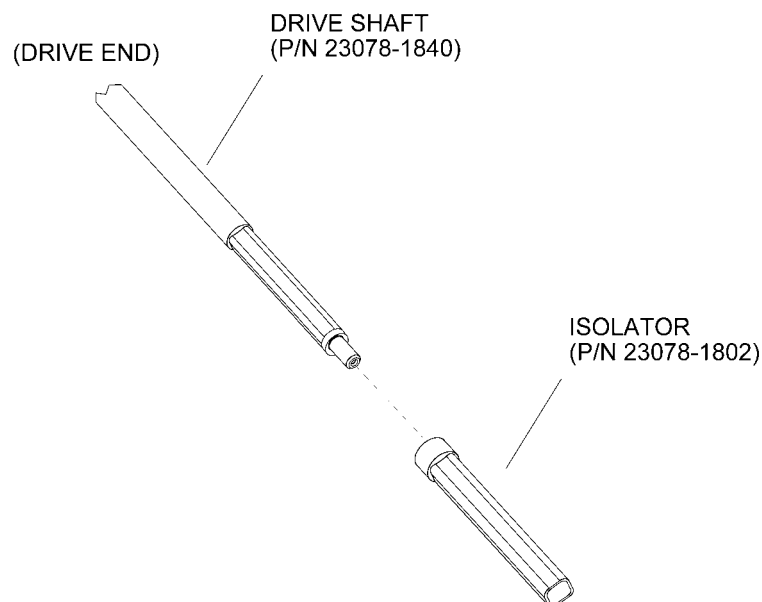
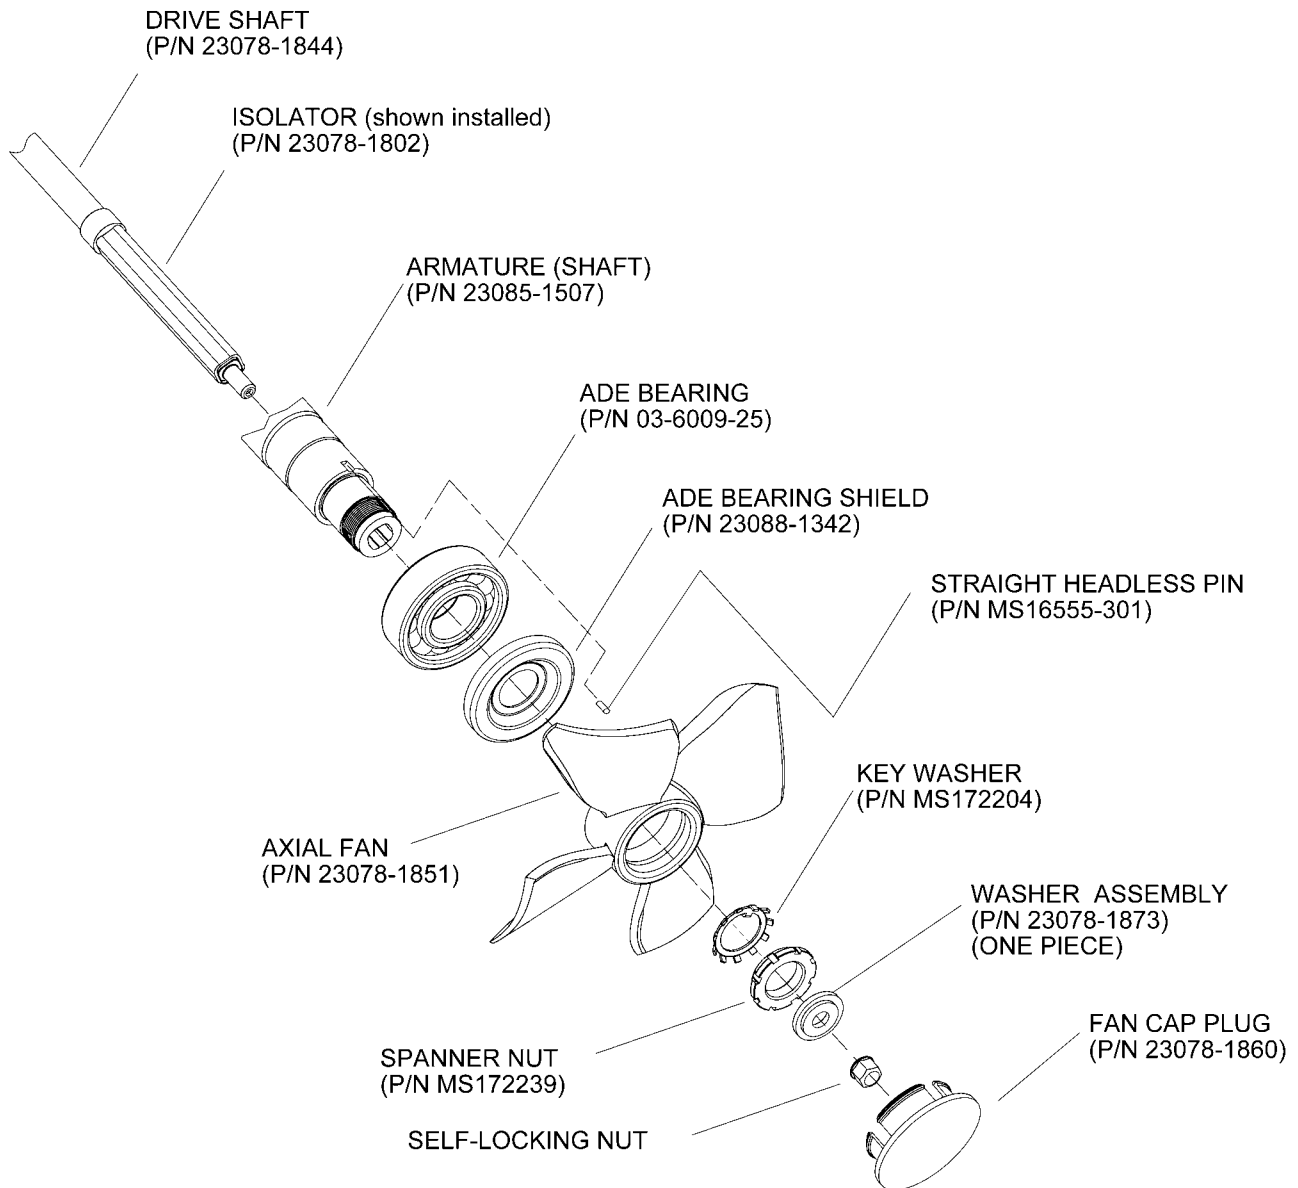

Figure 5 - Installation of Isolator on the Drive Shaft
Figure 6 - Assembly of ADE Drive Shaft Isolation
- (12) Install drive shaft (P/N 23078-1844) with isolator (P/N 23078-1802), ADE bearing shield (P/N 23088-1342) and axial fan (P/N 23078-1851) as follows. See Figure 5 and Figure 6.
- (a) Slide isolator (P/N 23078-1802) onto the drive shaft square spline until the isolator (P/N 23078-1802) is flush against the drive shaft square spline shoulder. See Figure 5.
- (d) Attach key washer (P/N MS172204) on armature shaft as shown in Figure 6, locate key washer (P/N MS172204) on armature shaft by aligning the key washer inner tab with the armature keyway.
- (k) Press the fan cap plug (P/N 23078-1860) onto the fan. See Figure 6 for proper orientation.